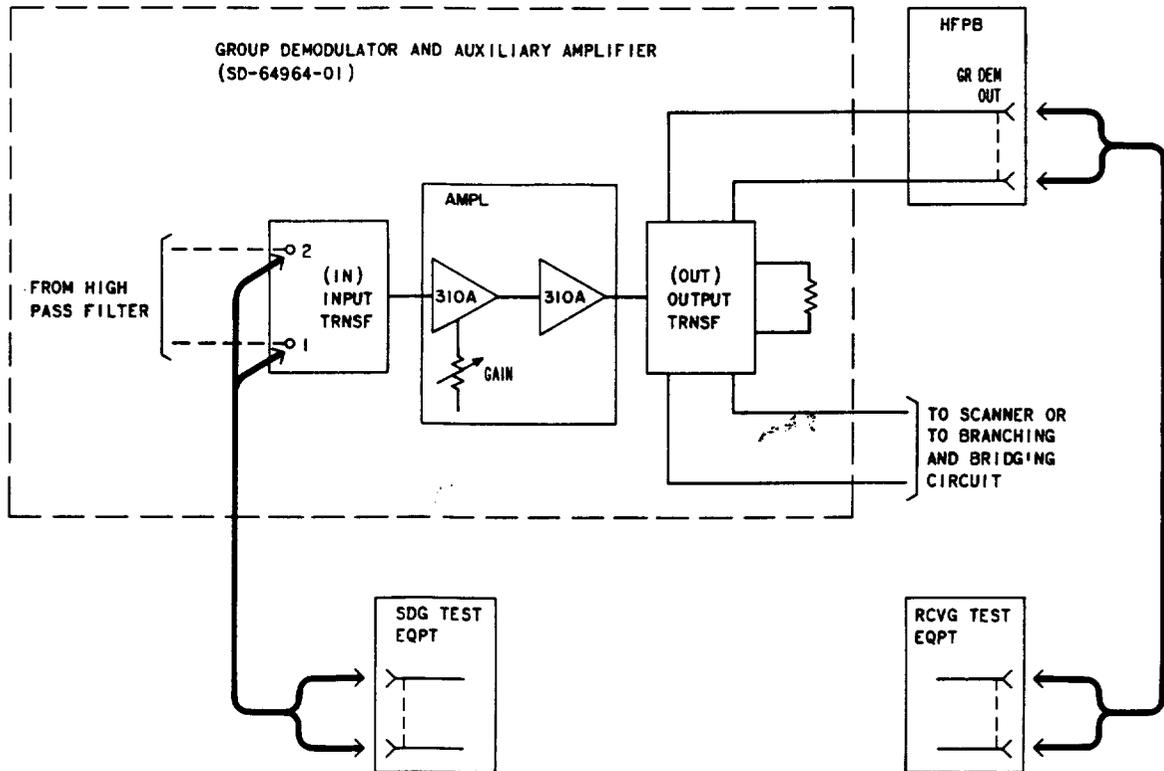

Fig. 2—Test Connections—Auxiliary Amplifier Gain Test
<p>Note: Perform this test only when the requirements of Section 356-120-502 cannot be met.</p> <p>1 Verify that the equipment to be tested is out-of-service.</p> <p>2 Prepare the receiving test equipment (RTE) to measure 95 kHz at 0 dBm.</p> <p>3 Prepare the sending test equipment (STE) to deliver 95 kHz at -60 dBm.</p> <p>4 Remove the equipment cover.</p> <p>5 Disconnect, by unsoldering, the wire from terminal 2 of the input (IN) transformer.</p> <p>6 Connect the STE to terminals 1 and 2 of the (IN) transformer [patch (1), Fig. 2].</p> <p>7 Set the GAIN control to its maximum clockwise position.</p> <p>8 Connect the RTE to the GR DEM OUT jack of the circuit being tested [patch (2), Fig. 2].</p> <p>9 Increase the power of the input test signal until 0 dBm is measured on the RTE.</p> <p>10 Measure and record the gain of the amplifier.</p> <p>Requirement: At least 43.5 dB of gain</p> <p>Example: 43.5 dB in attenuator = 43.5 dB amplifier gain.</p> <p>11 Set the GAIN control to its maximum counterclockwise position.</p>
13	Disconnect all test equipment [patches (1) and (2), Fig. 2].